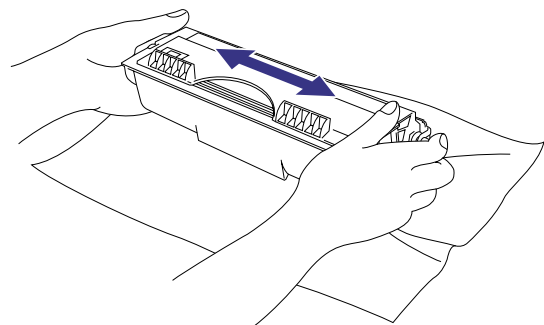

Fig. 5-3
- (1) Open the front cover, and pull out the drum unit from the printer.
- (2) Place the drum unit containing the old toner cartridge on a flat, horizontal surface, and remove the toner cartridge from the drum unit while pushing the lock lever down with your right hand.
- (3) Unpack the new toner cartridge, and gently rock it from side to side 5 or 6 times keeping it horizontal. (Fig. 5-3)